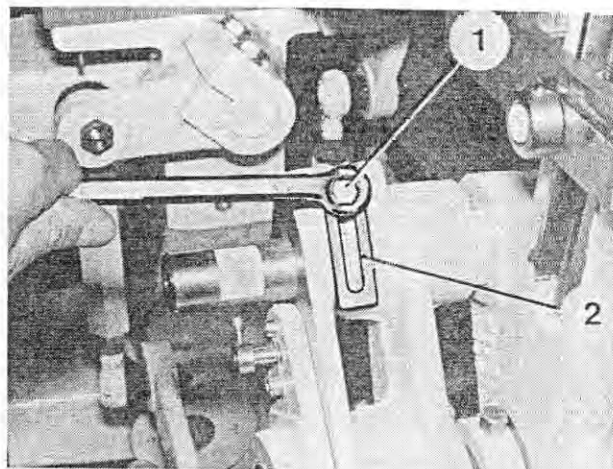

Fig. 244
3. Loosen the locking screw (Figure 244/1) of the centering piece (Figure 244/2). Push the centering piece up and lock it, using the locking screw.